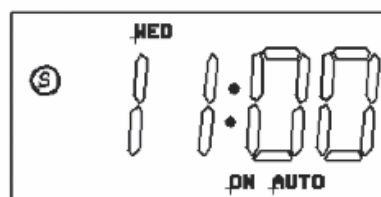

Figure B-22: Summer mode
- In operating mode, pressing the 'PROG' and 'TIME' (combination of buttons) to set the summer mode. The clock will forward on one hour. Refer to Figure B-22.